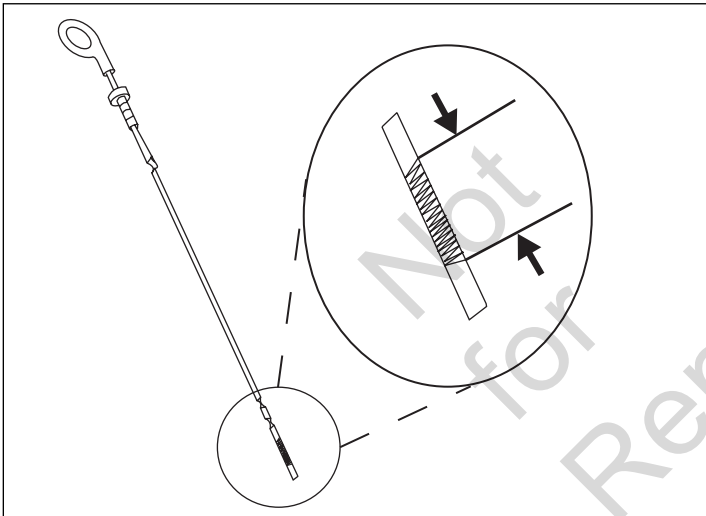

Figure 1
7. Add the required amount of oil to bring the level up to, but not over, the “FULL” mark on the dipstick (Figure 1). Reinstall the oil filler cap to the valve rocker arm cover and wipe any excess oil clean.